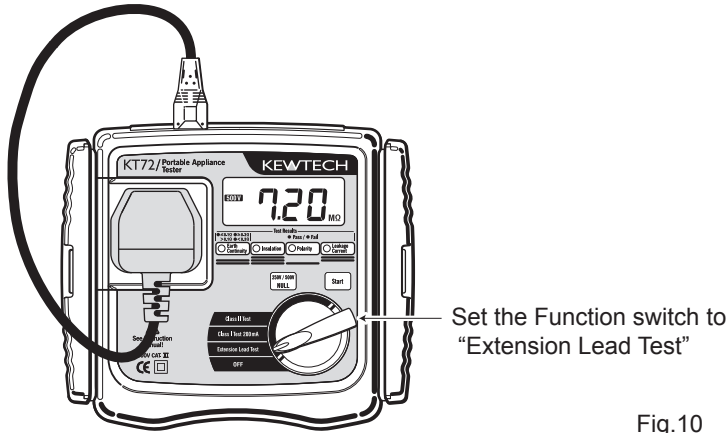

Fig.10
- (1) Set the function switch to Extension Lead Test function.
- (2) Connect the Extension lead adaptor KAMP S (UK) as indicated in Fig.10, and then follow the procedure described at clause 5.3.1 (4).
- (3) Follow the procedure described at clause 5.3.1 (5) to cancel the Null setting.